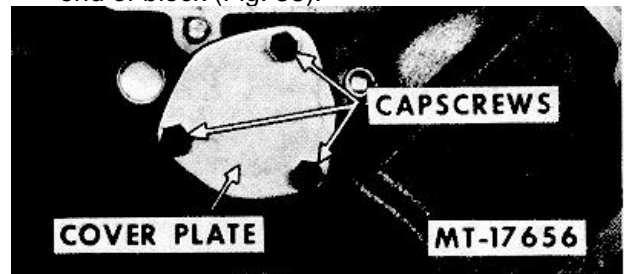

Fig. 38
40. Remove three capscrews and lockwashers and remove camshaft cover plate and gasket from end of block (Fig. 38).